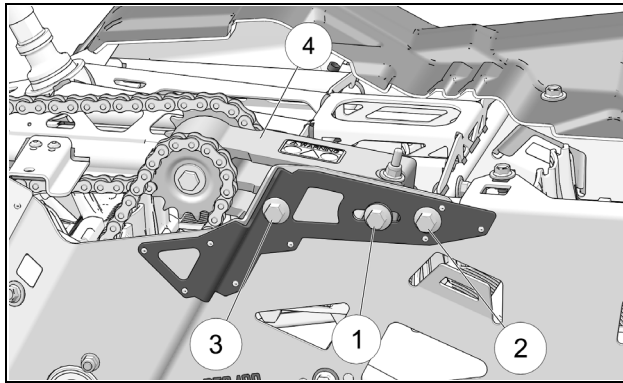

Figure 3
- Loosen assembly bolts (1) and (2) on left side panel. Loosen bolt (3) by only a half-turn. By loosening bolts (1) and (2), the Chain Tensioner (4) will be able to pivot on its axis. Bolt (3) must be kept under clamp load. See Figure 3.